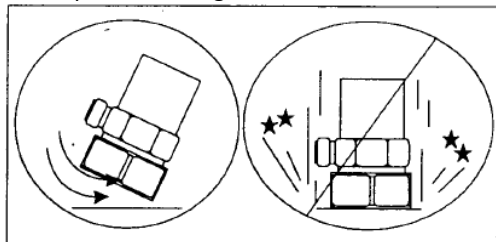

Figure 10. Magnet Mounting
STEP 4: Mount the magnet/sensor assembly to the prepared test surface by gently “rocking” or “sliding” it into place. See Figure 10.